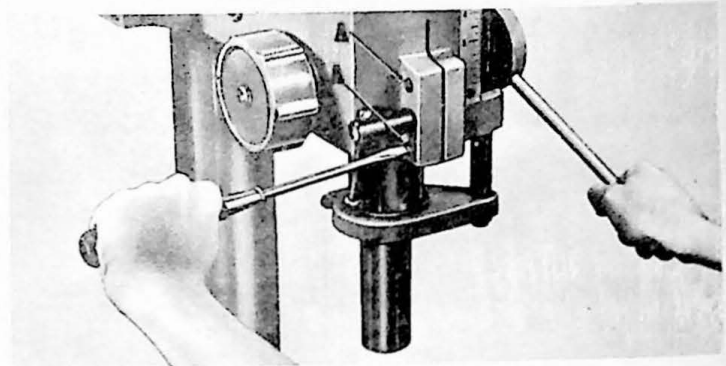

Figure 8
Head of drill press head is split — has two take-up screws set at factory to provide accurate fit between head and quill. This setting should not be disturbed unless play develops between quill and head. To eliminate play, tighten screws (A, fig. 8) — using correct size screw driver — until play has been removed. Move quill up and down in head to make sure it slides freely.
To increase tension, lower quill to bottom of stroke, turn the spring cap counter-clockwise. To release tension, pull out spring cap (fig. 8) and turn clockwise.
1. Release spindle return spring tension (fig. 8).